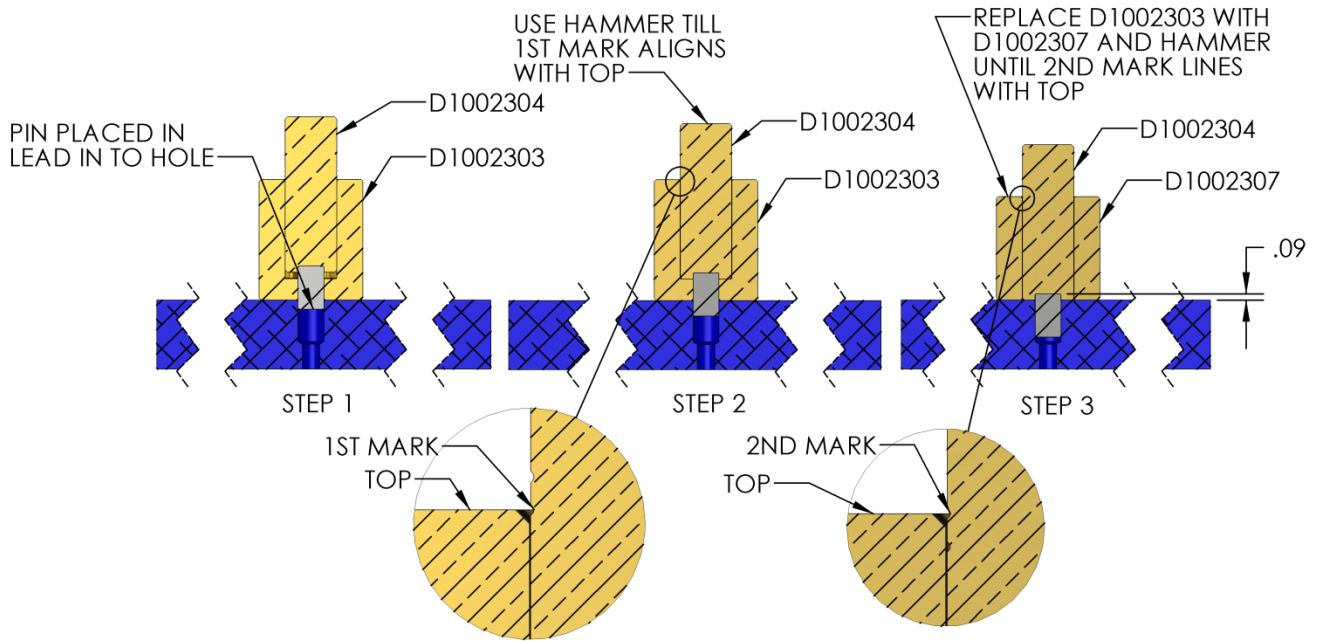

Fig 14
9. Insert 3/8 x 5/8" dowel pins Qty. 12 (only 4 shown on Figure 14 .535" deep (dowel will not bottom out) and must remain .09 above surface see appendix C for P/